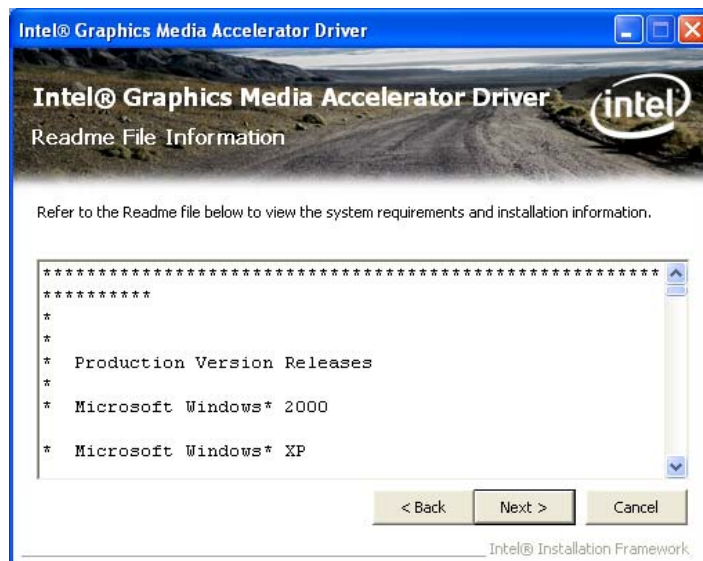

Figure 6-12: VGA Driver Read Me File
Step 10: The Read Me file in **Figure 6-12** appears.